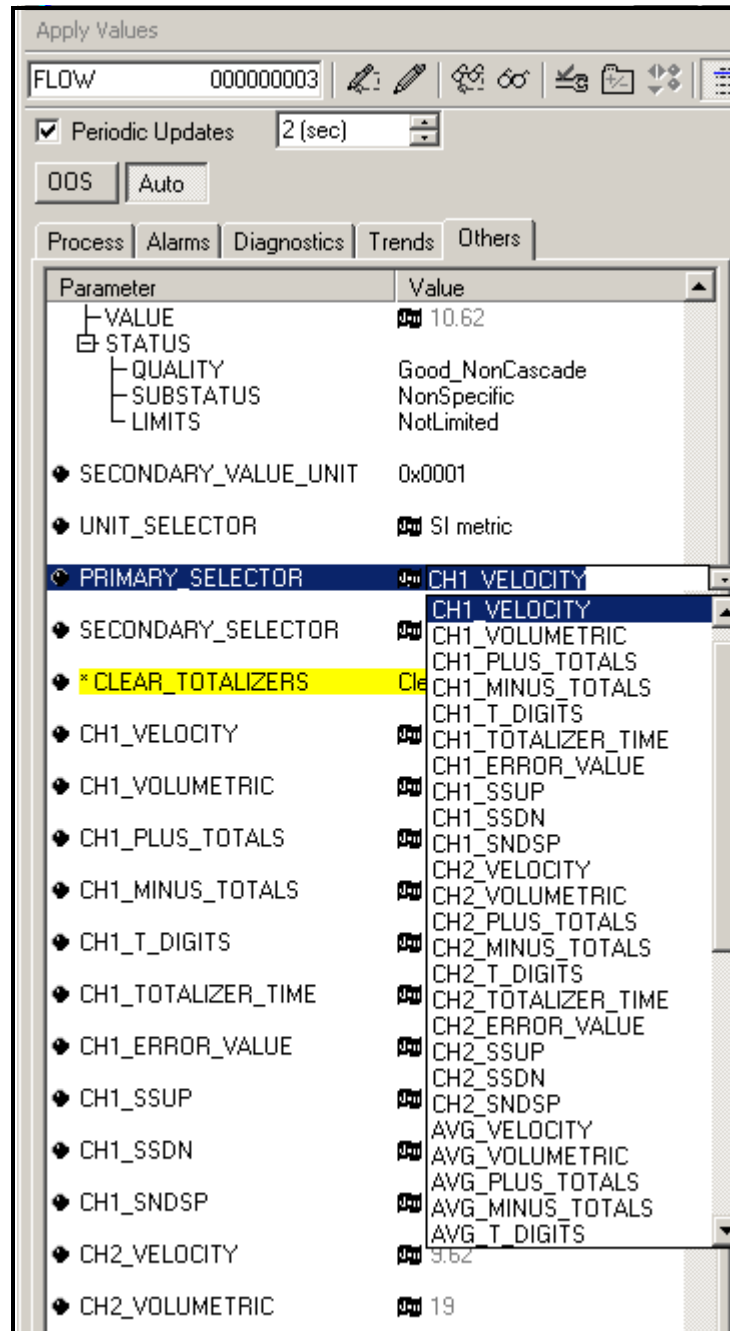

Figure 60: Primary Selector Drop Down List
2. Select the **Others** tab and open the drop down list for the PRIMARY_SELECTOR and SECONDARY_SELECTOR (refer to Figure 60 on page 135).
3. Choose the unit from the list (see Figure 60 on page 135).